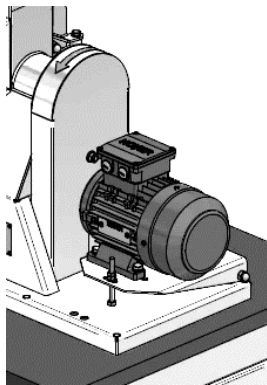

Figure 6-4: Motor direction
- The direction of rotation of motor is correct. All emergency stops are functioning correctly See (Fig. 6-4).